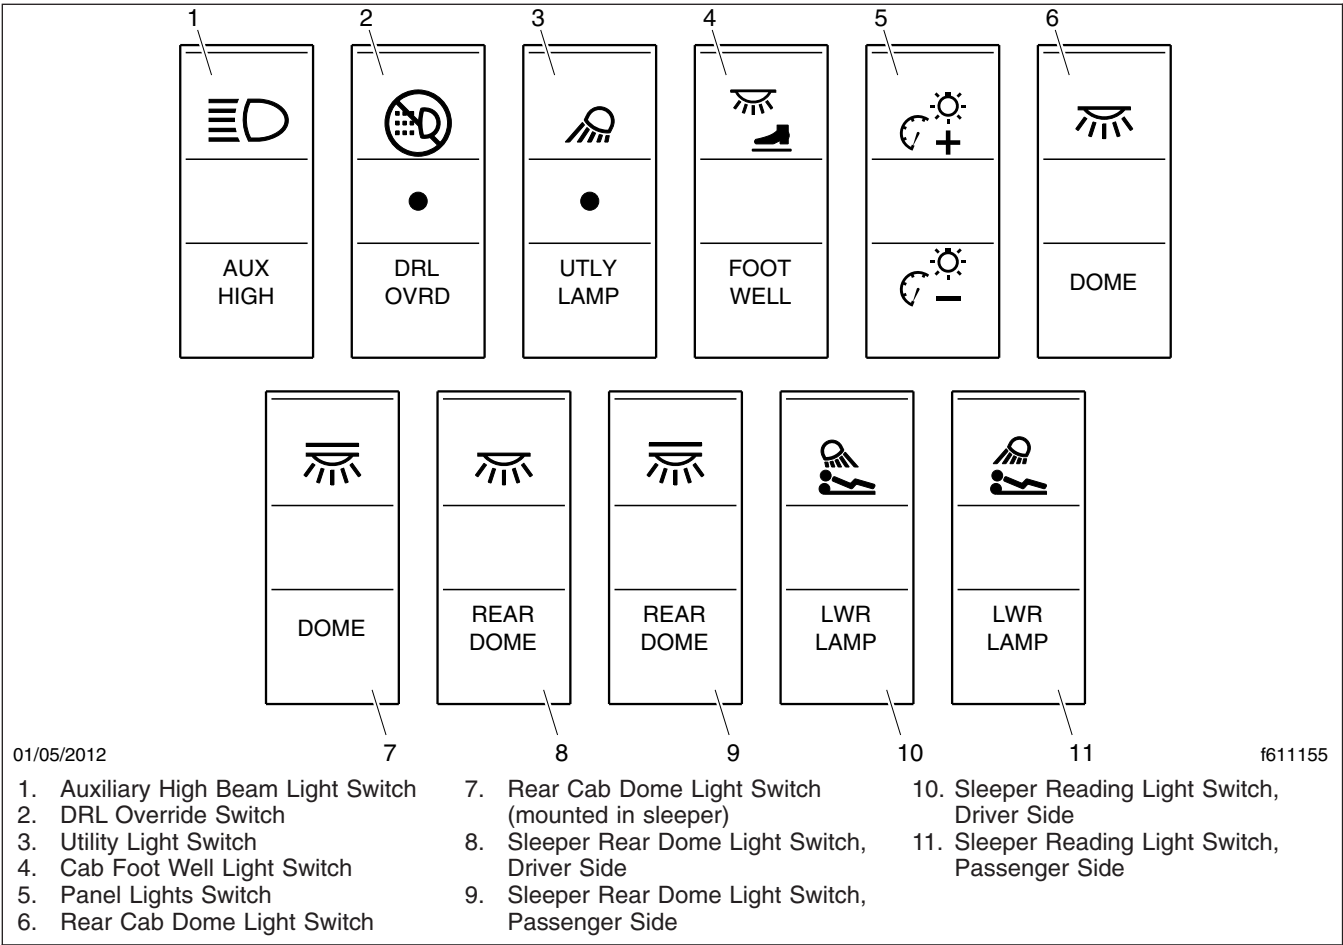

Fig. 5.4, Dash-Mounted and Sleeper-Control Light Switches
Auxiliary high-beam lights may be located in the front bumper. To activate the auxiliary high beam lights, press the upper part of the dash switch. The auxiliary high beam lights will illuminate only when the high-beam headlights are on. They will switch off temporarily when the low-beam headlights are on, until the high beams are on again. Press the lower half of the switch to deactivate it. See Fig. 5.4.
Daytime running lights are mandatory for vehicles domiciled in Canada. Vehicles domiciled in any other location may have an optional override switch (Fig. 5.4, ref. 2). This is a momentary switch that enables the driver to deactivate the DRL. Press the upper half of the switch briefly to activate or deactivate the DRL.
Utility lights can be swivel-mounted on upper half of the cab, mounted on the exhaust support, or flush-mounted on the back of the cab or sleeper. Press the upper half of the switch to activate it. Press the lower half of the switch to turn it off. When activated, a red indicator light in the switch is illuminated. See Fig. 5.4.
When the driver or passenger doors are opened, red lights illuminate both foot wells. These lights can also be activated with the foot well light switch. See Fig. 5.4. Press the upper half of the switch to turn
The panel lights illuminate when the headlights are turned on. To adjust the brightness of the panel lights, use the panel lights switch, usually located in the master module next to the hazard flasher switch. See Fig. 5.4. The panel lights brighten and dim in 5% increments, depending on whether the upper half or the lower half of the switch is pressed. When the headlights are turned on, the panel lights setting will default to the intensity that was last set.
Use the dash-mounted switch or the switch in the sleeper panel to activate the rear cab dome light. See Fig. 5.4.
The sleeper foot well switch is located in the lower switch module in the sleeper. It looks identical to the cab foot well switch. See Fig. 5.4. When the switch is activated, two lights illuminate the sleeper floor.
Clear reading lights are mounted above the lower bunk in the rear corners of the sleeper. There are two switches in the sleeper control panel for the reading lights. To turn a reading light on, press the upper half of the switch. Press the lower half of the switch to turn it off. See Fig. 5.4.